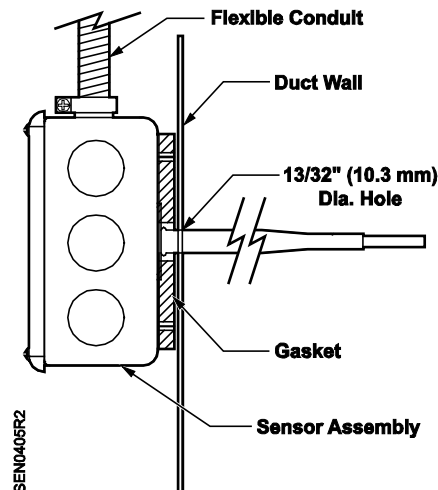

Figure 1. Duct Point Sensor Installation.
1. Drill a 13/32-inch (10.3 mm) hole into the duct at the desired location of the sensor. See Figure 1.
2. Remove the conduit box cover and remove gasket. Assemble gasket onto sensor assembly. See Figure 1.